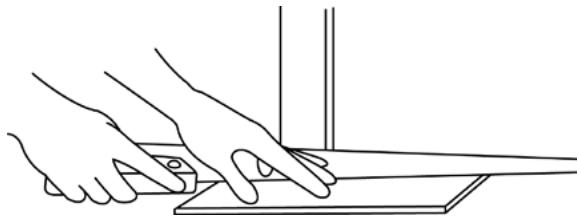

Figure 4
- Undercut door casings and jambs. Remove any existing base, shoe moulding or doorway thresholds. These items can be replaced after installation. All door casings and jambs should be undercut to avoid difficult scribe cuts (**Figure 4**).
- Undercut door casings and jambs. Remove any existing base, shoe molding or doorway thresholds. These items can be replaced after installation. All door casings and jambs should be undercut to avoid difficult scribe cuts (**Figure 4**).